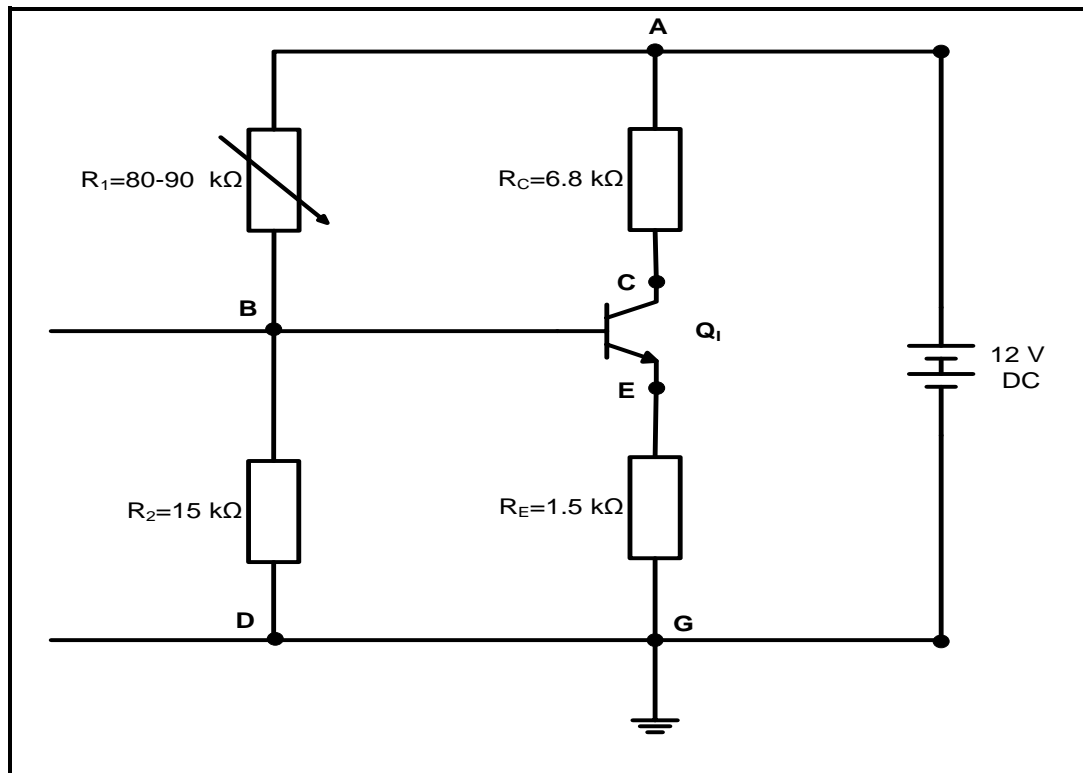

FIGURE 4.4.3: POTENTIAL DIVIDER CIRCUIT
- (a) Build the circuit in FIGURE 4.4.3 on the breadboard.